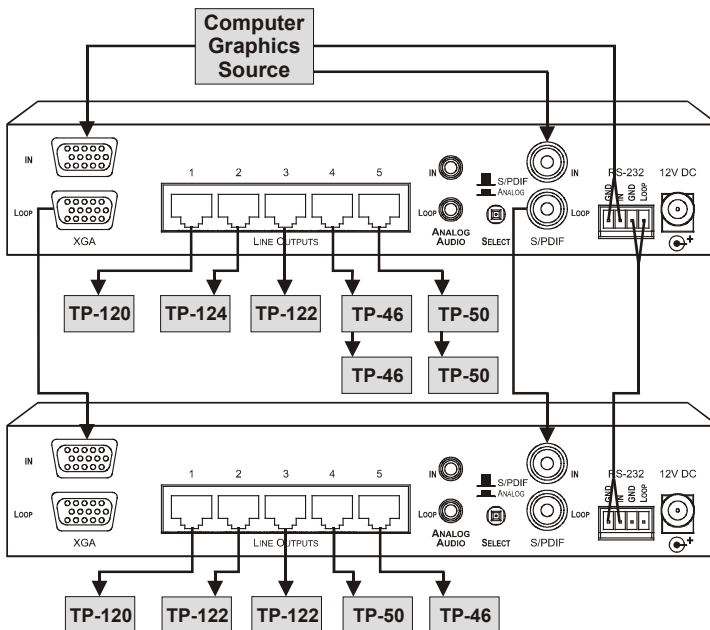

Figure 4: Looping the TP-205A
You can loop two¹ TP-205A units to add further output signals to the system, as illustrated in the example in Figure 4. In this example:
4. Connect the LINE OUTPUT RJ-45 connectors on each TP-205A unit, to the LINE IN RJ-45 connectors of various receivers, as illustrated in Figure 4.